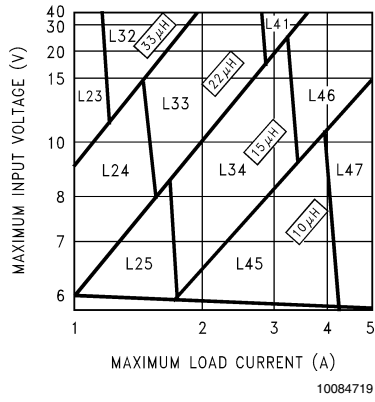
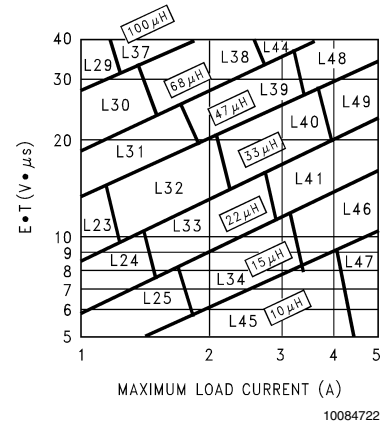

FIGURE 3. LM2679-3.3
FIGURE 6. LM2679-ADJ
Step 3: Determine the inductor required by using one of the four nomographs, *Figure 3* through *Figure 6*. Table 1 provides a specific manufacturer and part number for the inductor.
Step 5: Determine an input capacitor from Table 4 for fixed output voltage applications. Use Table 2 to find the specific capacitor type. For adjustable output circuits select a capacitor from Table 2 with a sufficient working voltage (WV) rating greater than $V_{in\ max}$, and an rms current rating greater than one-half the maximum load current (2 or more capacitors in parallel may be required).
Step 3: Use the nomograph for the 3.3V device, *Figure 3*. The intersection of the 16V horizontal line ($V_{in\ max}$) and the 4A vertical line ($I_{load\ max}$) indicates that L46, a 15 μ H inductor, is required.
Step 3: To use the nomograph for the adjustable device, Figure 6, requires a calculation of the inductor Volt•microsecond constant ($E \cdot T$ expressed in $V \cdot \mu s$) from the following formula:
Using Figure 6, the intersection of 27V• μs horizontally and the 3.5A vertical line ($I_{load\ max}$) indicates that L48, a 47 μH
Important Note: When using the adjustable device in low voltage applications (less than 3V output), if the nomograph, Figure 6, selects an inductance of 22 μH or less, Table 6 does not provide an output capacitor solution. With these conditions the number of output capacitors required for stable operation becomes impractical. It is recommended to use either a 33 μH or 47 μH inductor and the output capacitors from Table 6.